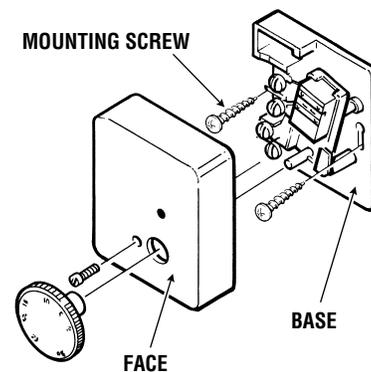

Figure 2-38. Thermostat Detail
4. Remove the adjusting knob and face cover. Mark and drill mounting holes. Mount thermostat using the screws provided. (Figure 2-38)